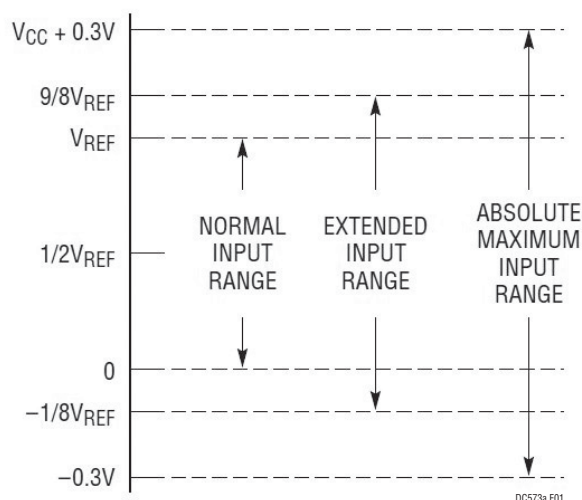

Figure 1. LTC2400 Input Range
**VIN:** Input voltage to the LTC2400. The absolute range of the input voltage is  $GND - 0.3V$  to  $V_{CC} + 0.3V$ . The range for a valid conversion is  $GND - 0.125 \cdot V_{REF}$  to  $1.125 V_{REF}$ . See Figure 1.